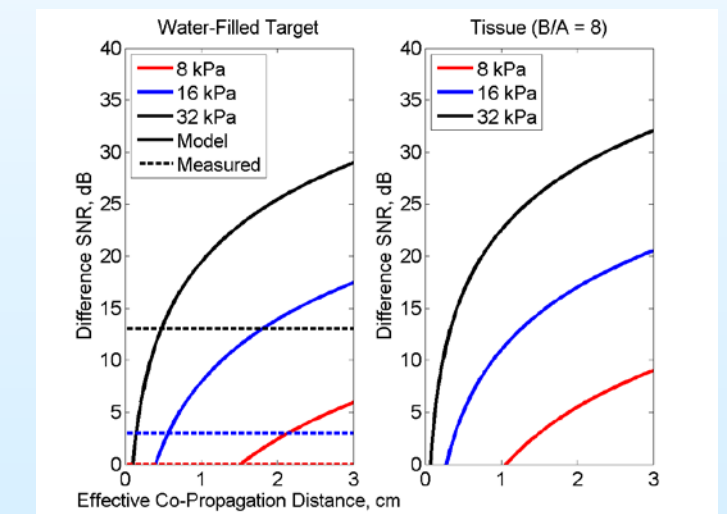

Figure 7. Effect of B/A and co-propagation
- While difficult to model exactly for all but the simplest geometries, we can estimate the contribution of an effective one-dimensional co-propagation distance. For typical geometries used in this work, this distance is 0.25 – 2 cm. Modeling and experiments show that source pressures above 8kPa are more likely to generate these signals (Figure 7)